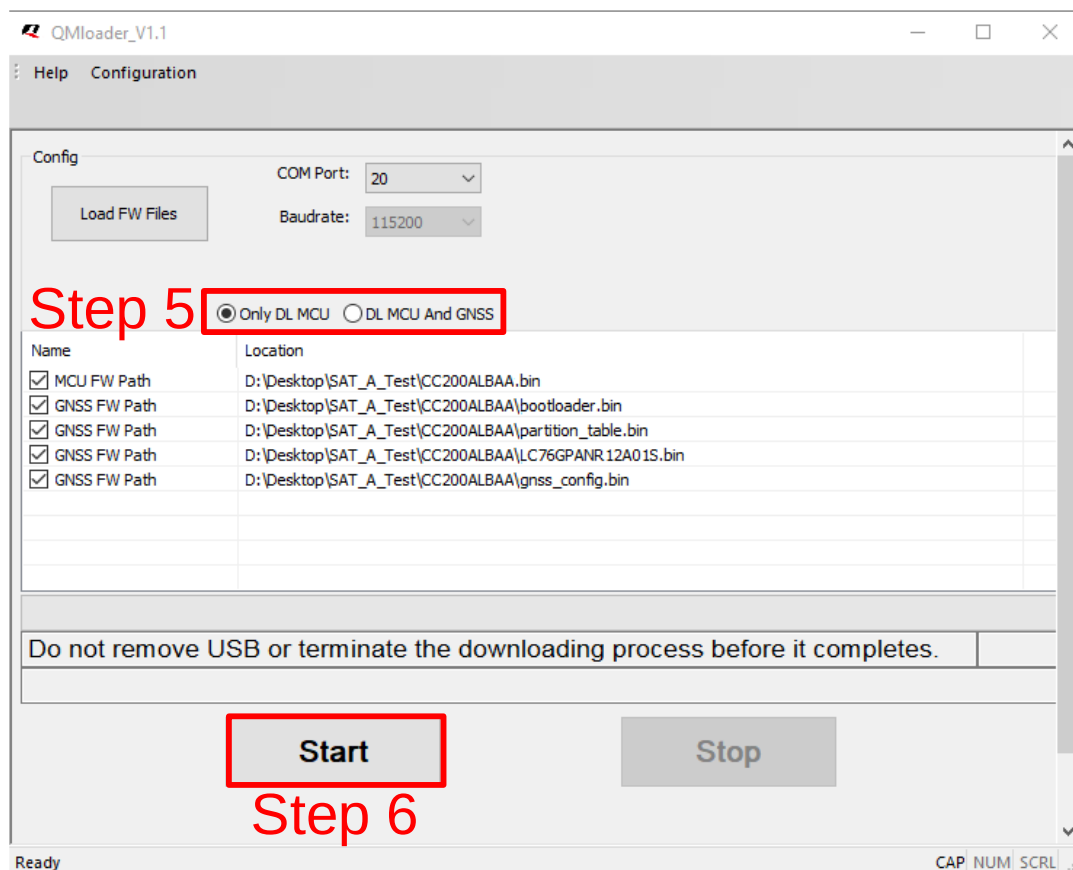

Figure 28: Click “Start” to Start Upgrade
6. Choose the upgrade mode: either select both firmware or choose specific one to upgrade the module. This option is marked by Step 5 in **Figure 28**.
7. Click “**Start**” in the main screen of the QMloader marked by Step 6 in **Figure 28** to start firmware upgrade.